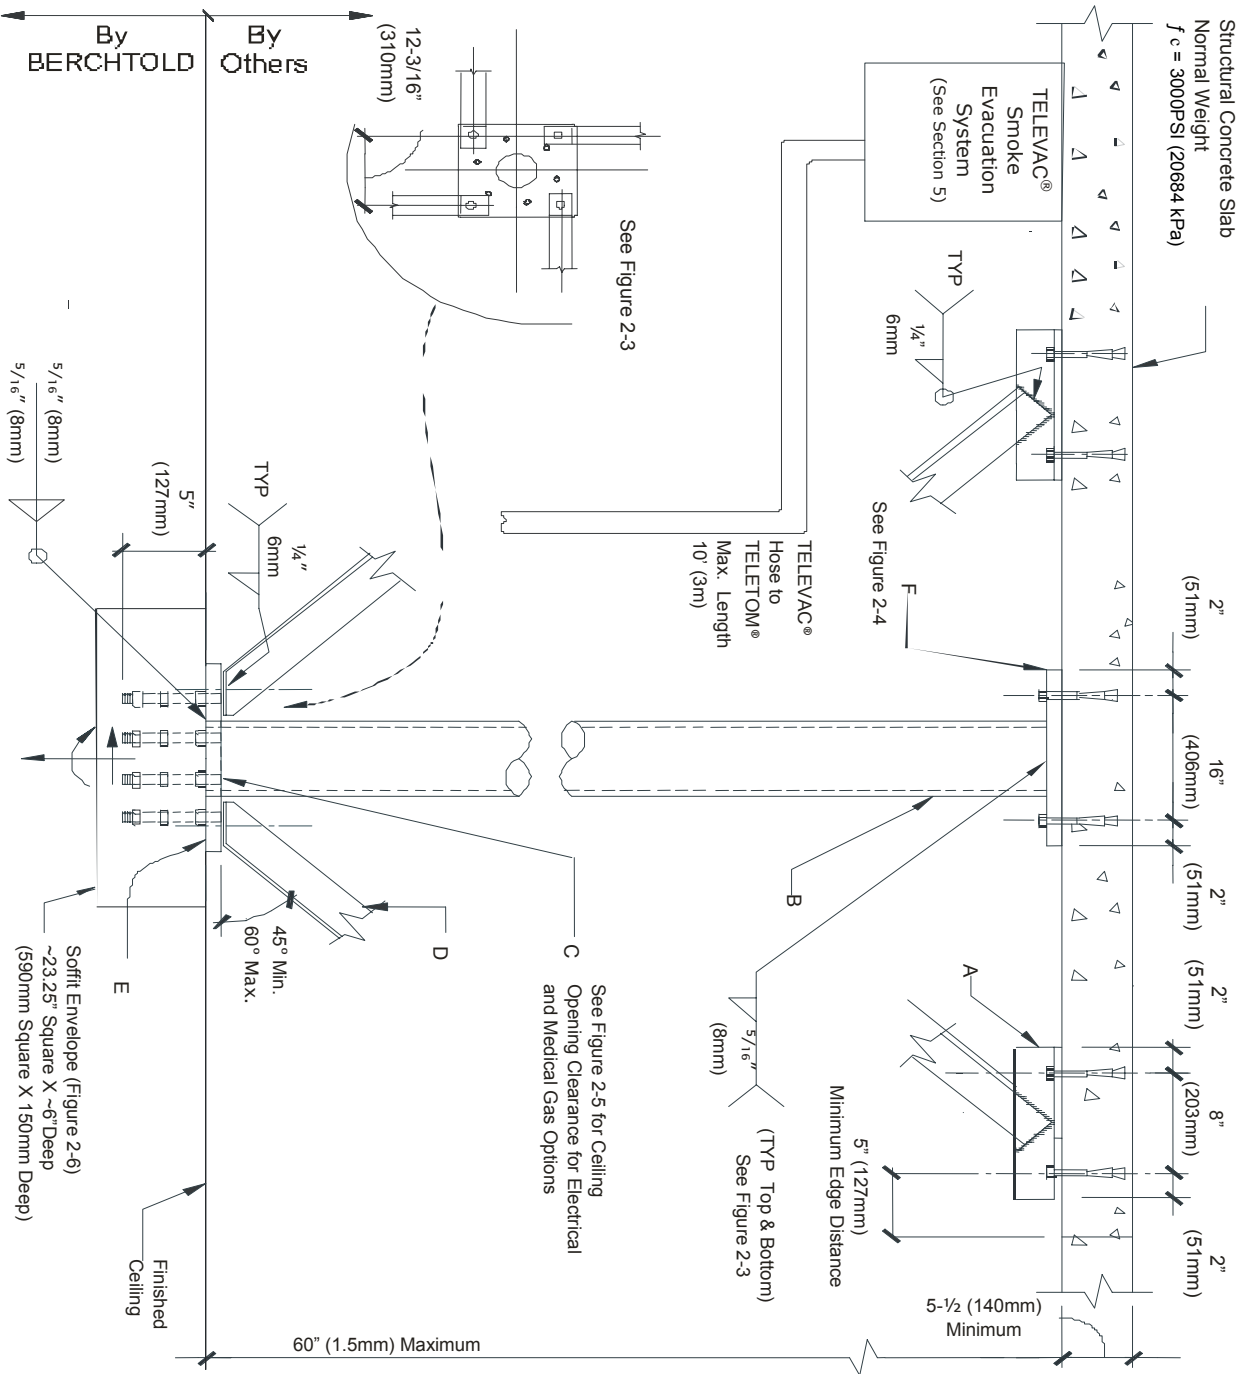
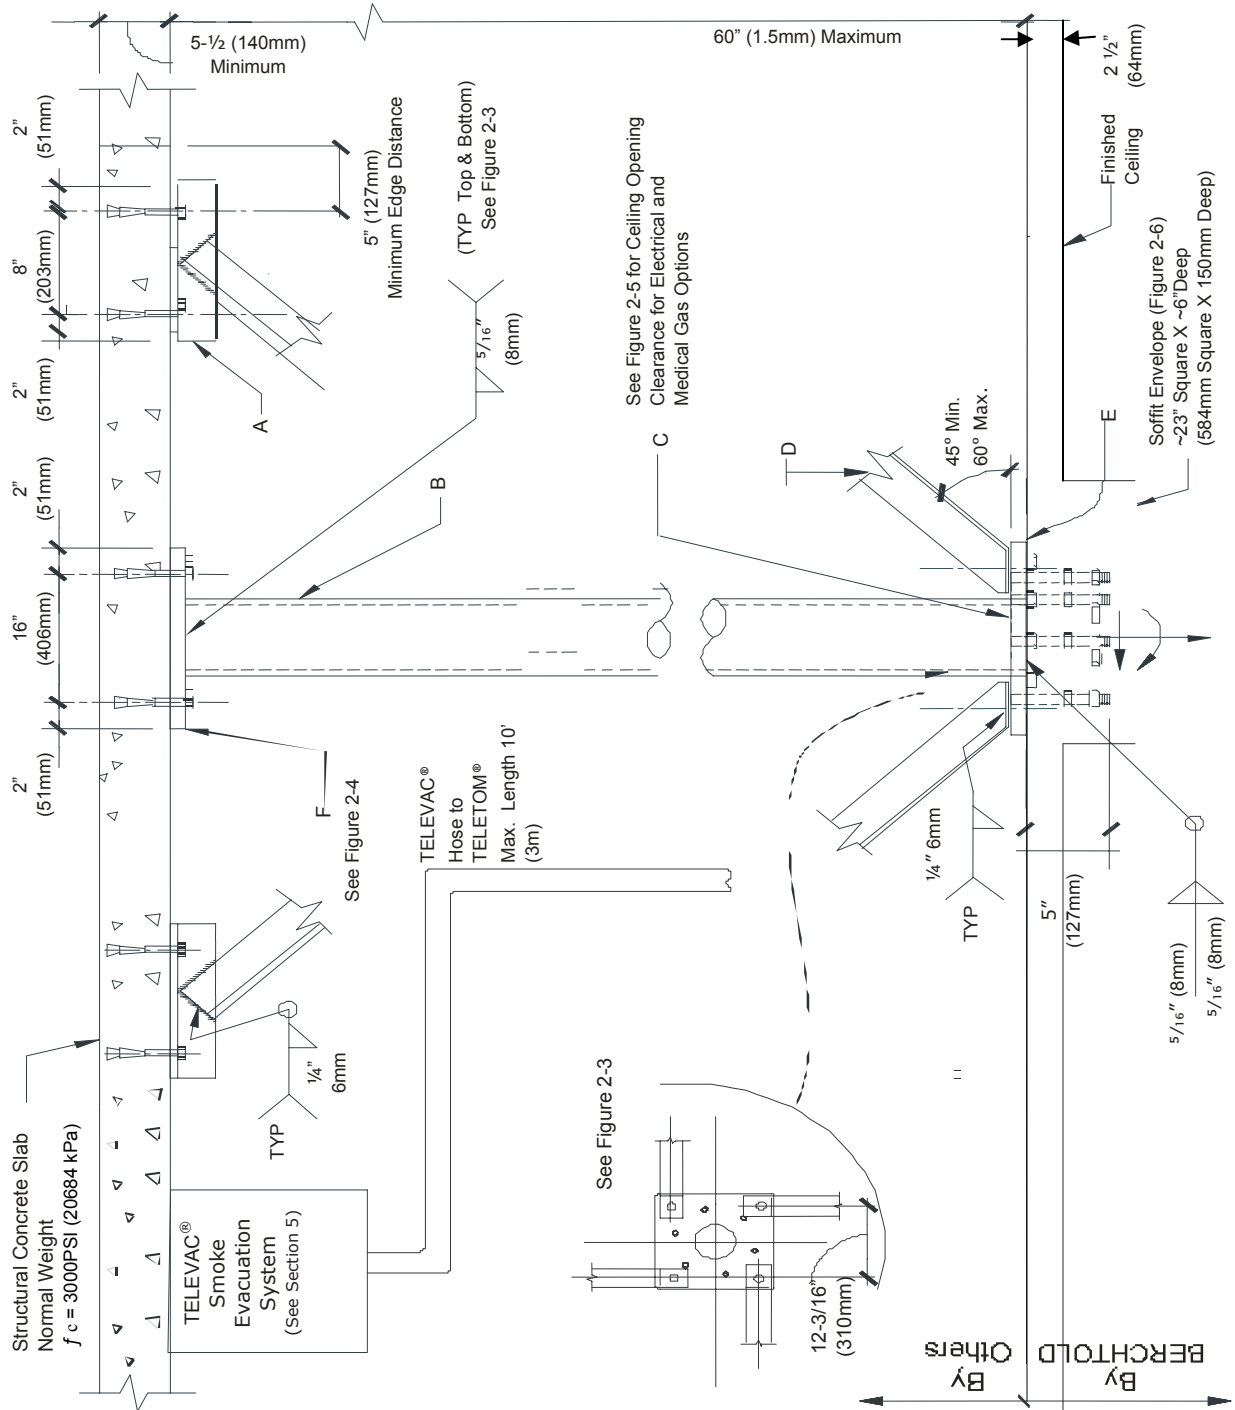
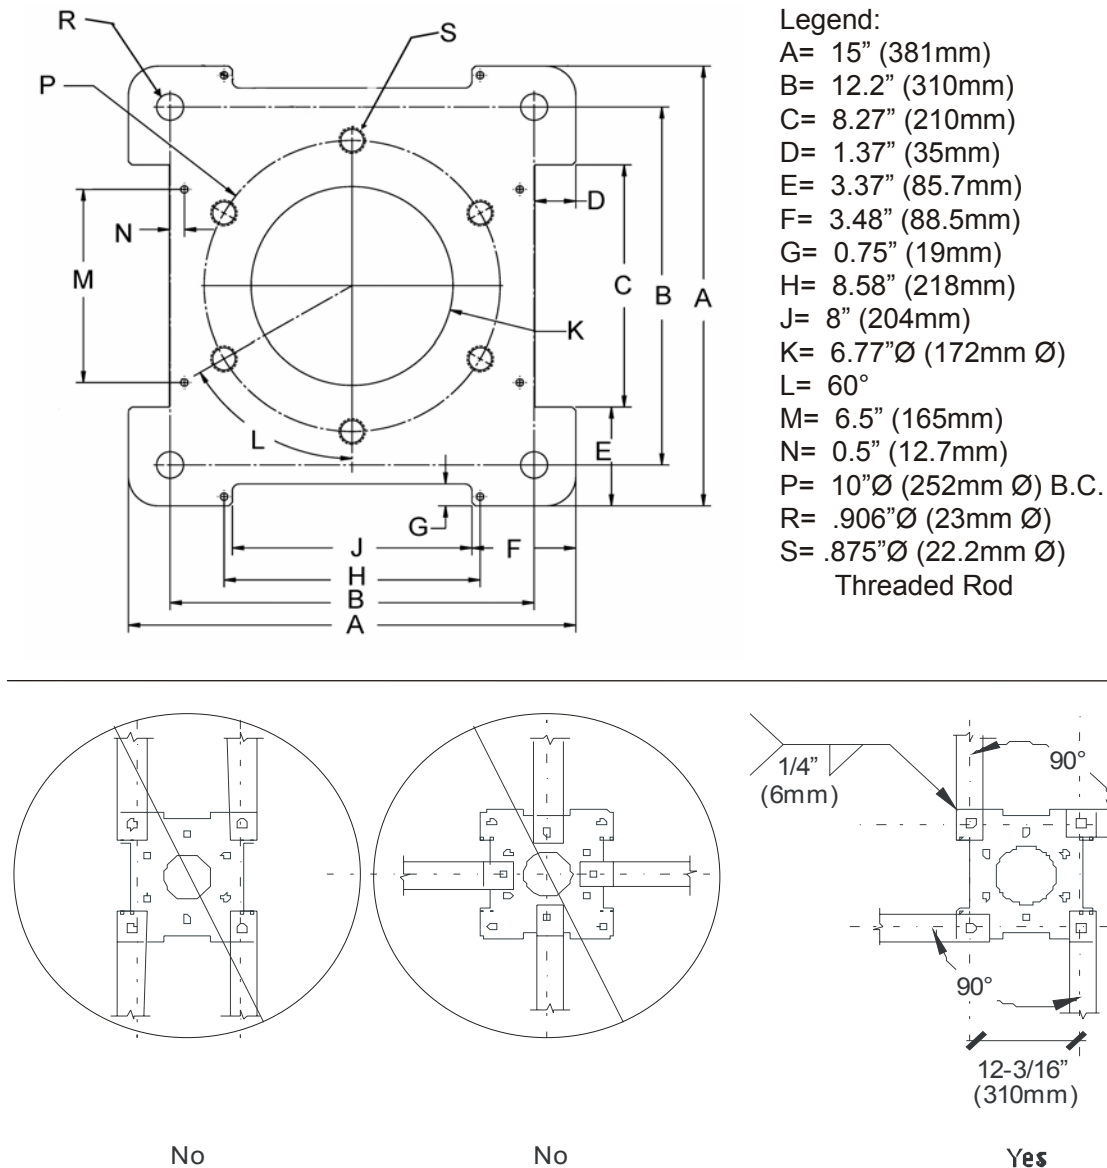

FIGURE 2-1 Recommended TELETOM® Single Mount Superstructure Design and Construction Materials
FIGURE 2-2 Recommended Super Structure Design and Construction Materials for TELETOM® Units with Light(s) or Monitor Arm(s)
FIGURE 2-3 TELETOM® Mounting Plate and Support Attachments
FIGURE 2-1 shows the design and the construction materials recommended for a successful TELETOM® Equipment Management System single mount Installation. Other constructions are possible. However, the use of other designs and construction materials should be considered only after consultation with a structural engineer.
FIGURE 2-2 shows the design and the construction materials recommended for a successful installation of a TELETOM® Equipment Management System with lights and monitor arms installed. Other constructions are possible. However, the use of other designs and construction materials should be considered only after consultation with a structural engineer.
Refer to FIGURE 2-3 for important details on the support of the TELETOM[®] mounting plate.
- 1. BERCHTOLD recommends that the L-angle support braces be welded to both the superstructure brackets (A-FIGURE 2-1 or FIGURE 2-2) and to the TELETOM[®] mounting plate (C).
- 2. Support braces (D) must be welded to the TELETOM[®] mounting plate (C).
- 3. Support braces or kickers must be attached only at the corners, and they must be at 90° angles to one another (see FIGURE 2-3).
- E. The bottom of the TELETOM® mounting plate (C) must be installed as shown in FIGURE 2-1 or FIGURE 2-2
- For typical single mount installations as shown in FIGURE 2-1, the bottom of the TELETOM® mounting plate must be flush with the bottom of the finished ceiling
- For single mount installations with light(s) or monitor arms shown in FIGURE 2-2, the bottom of the TELETOM® mounting plate must be 2-1/2" (64mm) above the underside of the finished ceiling.